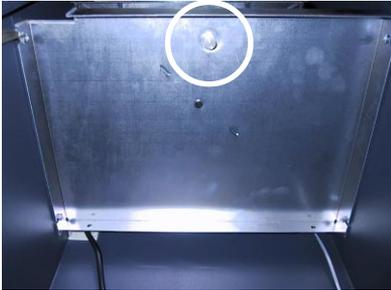
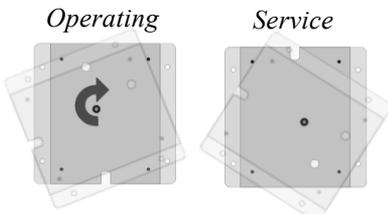

Figure 5. Location of turntable release pin on underside of dispenser tray.
Figure 6. Rotate turntable
5. **(For TDM-100)** If the turntable is not in the service position, pull down on the turntable locking pin, on the underside of the tray, as shown in Figure 5, and rotate the turntable clockwise until it is in the service position, as shown in Figure 6. Release the locking pin to lock the turntable in the service position.
6. **(For TDM-150)** If the turntable is not in the service position, slide the dispenser tray out to its fully extended position. Pull down on the turntable locking pin on the underside of the tray as shown in Figure 5 and rotate the turntable clockwise until it is in the service position as shown in Figure 6. Release the locking pin to lock the turntable in the service position.